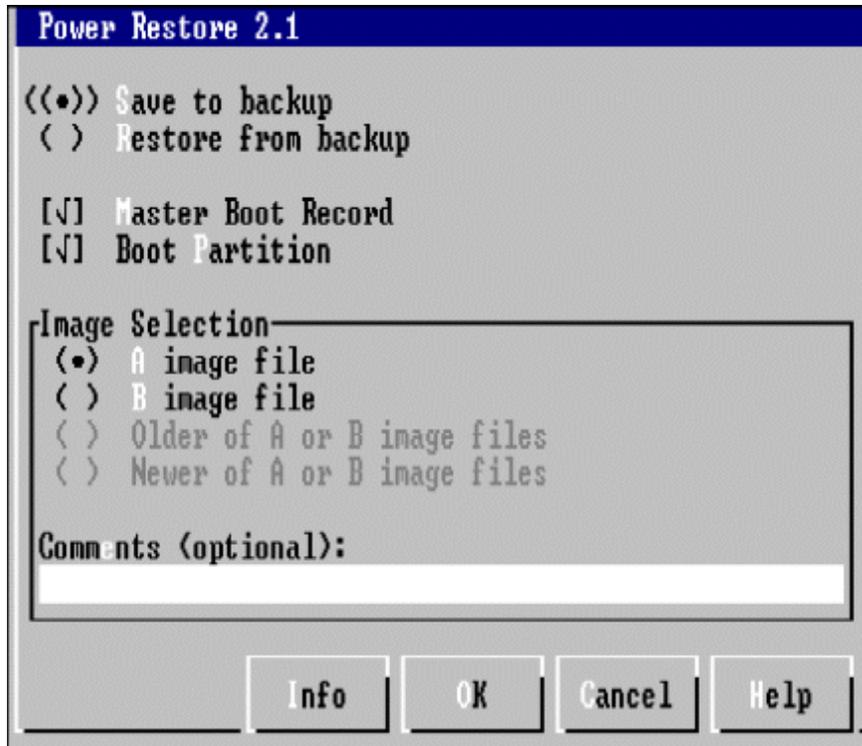

Figure 76. Power Restore text-based user interface
- Text-mode variation of the GUI interface - Use this interface if the system does not meet the previous GUI based requirements. The interface looks like Figure 76 on page 134: